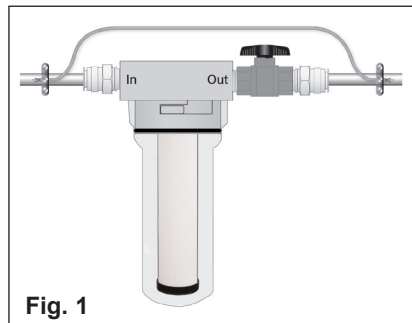
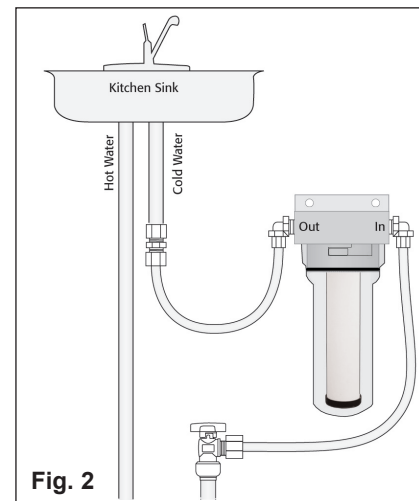

Fig. 1
Fig. 2
It may be installed in-line as shown in Fig. 1 or undersink as shown in Fig. 2.
For solderless installation use Rainfresh CK1P connector kit for inline installation (Fig. 1) or CK3 connector kit for undersink installation (Fig. 2). (sold separately)
2. Install filter using Rainfresh Connector Kits CK1P for Inline (Fig. 1) or CK3 Kit for undersink (Fig. 2) or standard pipe fittings in desired location making sure water enters inlet side of filter as marked on Filter Head.
3. Remove sump by turning 1/8th turn counterclockwise and lower. Remove protective bubblepack around 1M Cartridge. The filter unit comes with a ceramic adaptor (1007-0) that is threaded onto the cartridge and allows a simple press up fit of the cartridge over the center boss of the filter head (501). To replace sump, align the sump grooves with filter head (501) lugs and push straight up onto the head. Turn the sump 1/8 turn to right to lock.